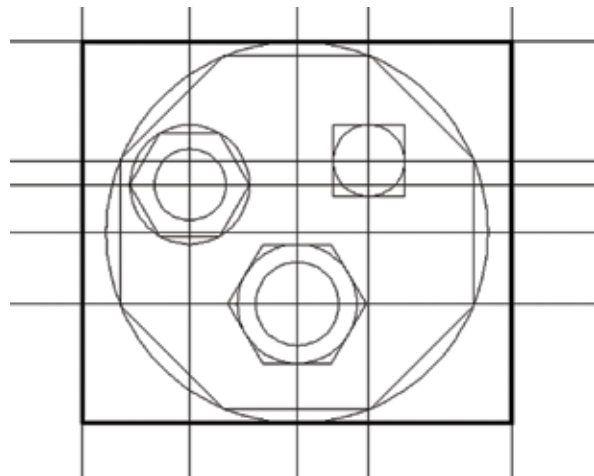

Figure 11.7
- Your drawing should now look like Figure 11.7